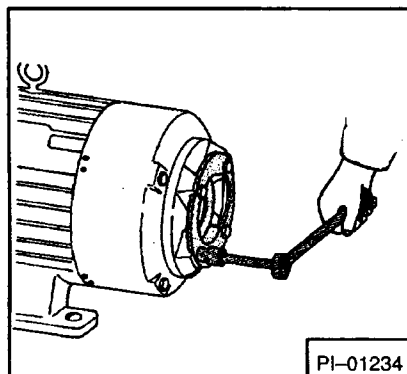

Fig. 4-53 Install Holding Plate
11. Install pump holding plate to housing (Fig. 4-53).
16. Tighten housing holding bolts (Fig. 4-53).